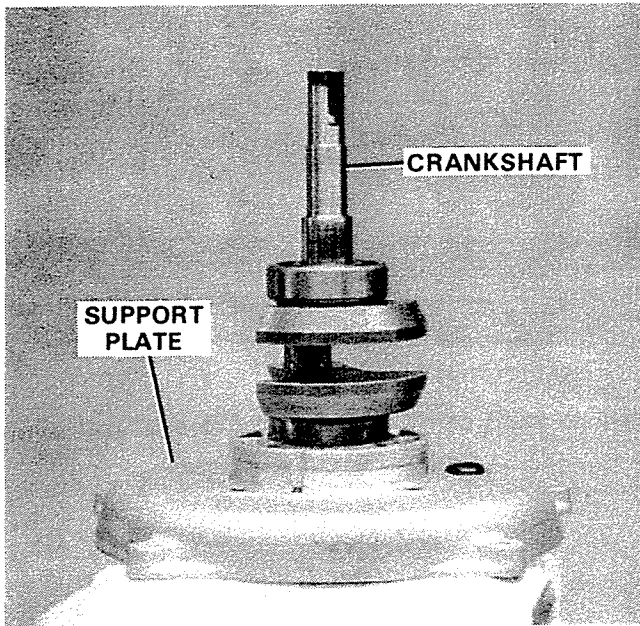

Figure 22. Installing Crankshaft to Support Plate.
1. Press or tap crankshaft with both bearings into support plate. Figure 22.